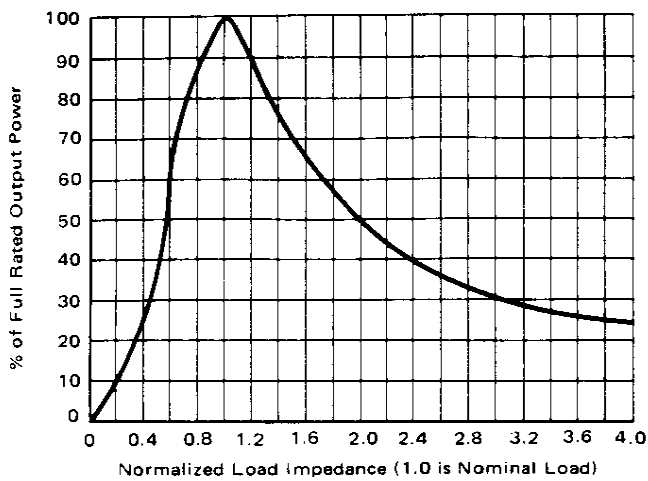

FIGURE 2 – Output Power versus Load Impedance
**Output Power:** Each amplifier will deliver its full rated rms output power into the nominal load impedance providing the power supply has adequate regulation. Figure 2 shows the power output versus load impedance.